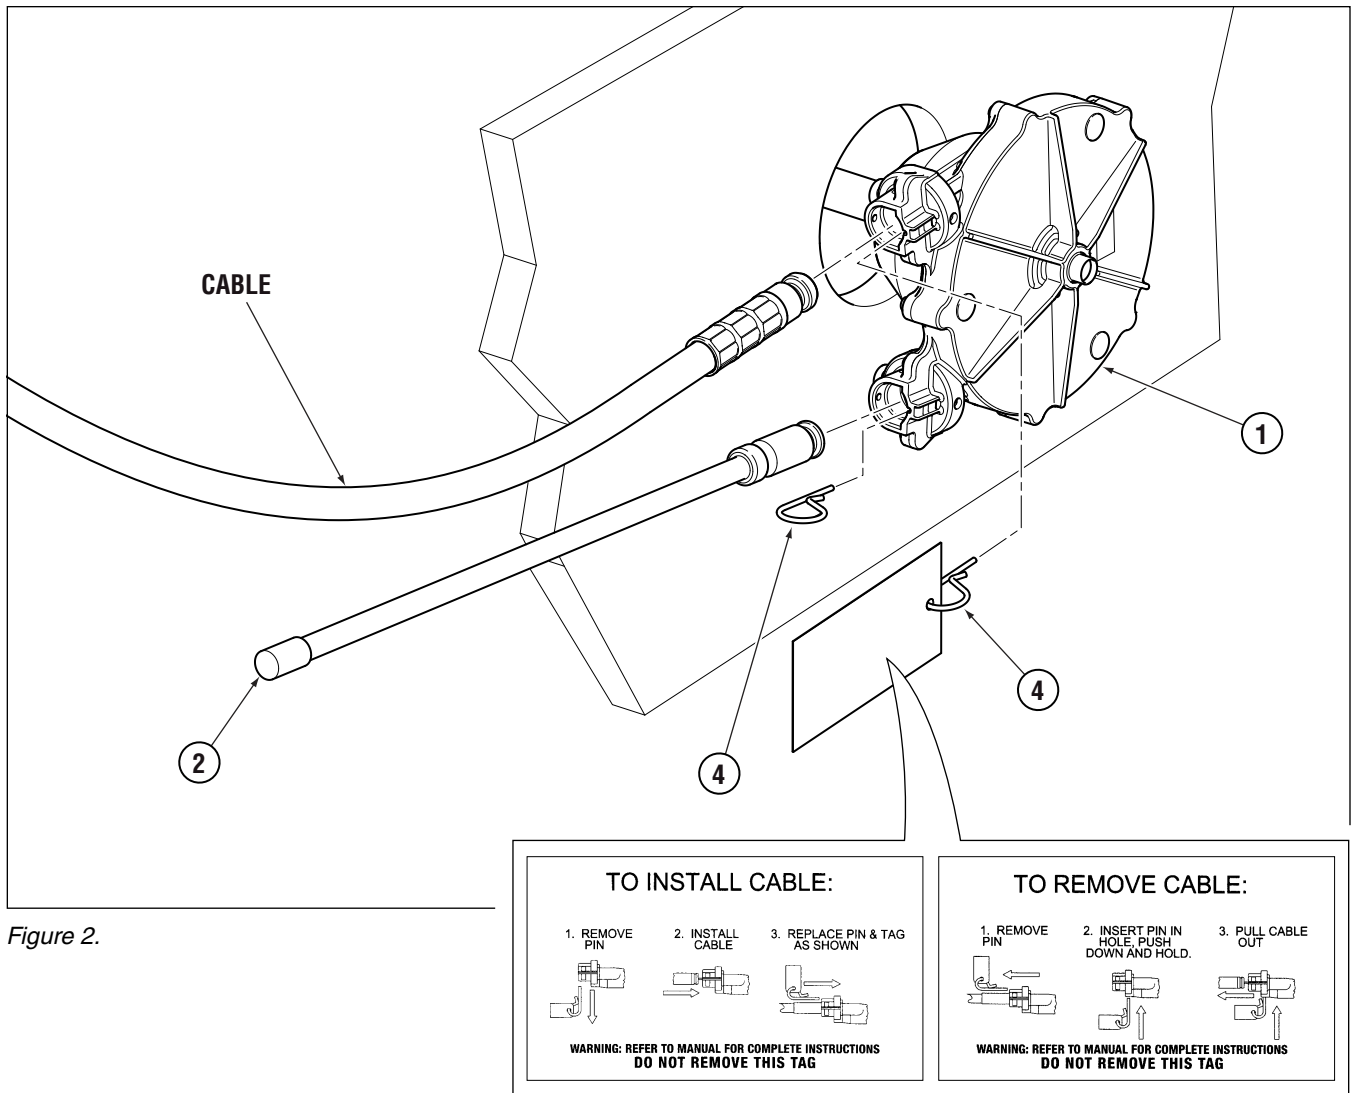

Figure 2.
**STEP 5.** Feed spent travel tube (item 2, Figure 2) over the exposed cable end until you hear it click into place in the helm spigot. Then insert pin as shown in Figure 2 until it is fully seated.